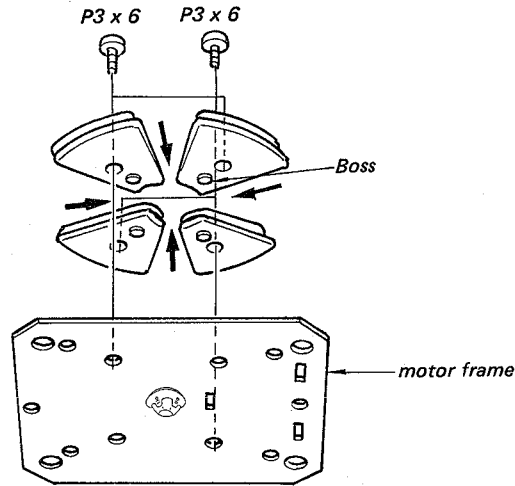

Fig. 2-15
- a). Mount the coils on the motor frame so that the boss of the coil is placed in the hole of the frame as illustrated in Fig. 2-15.